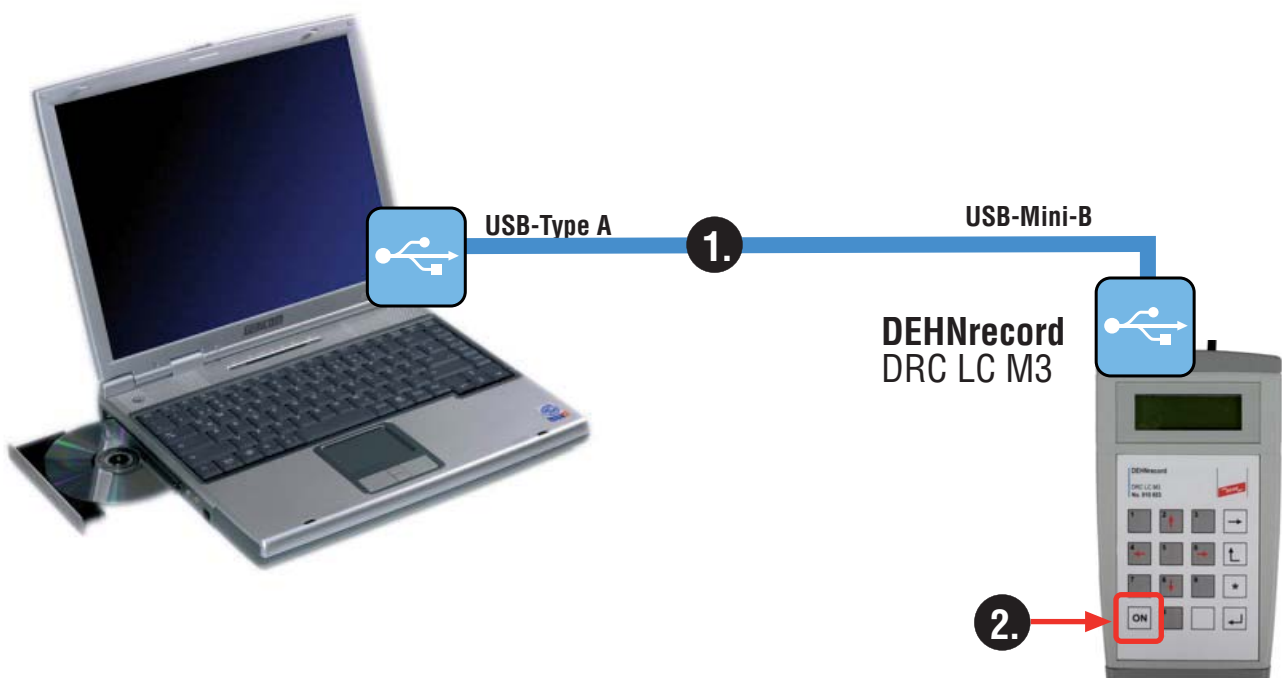

Fig. 1
1. Connect the hand-held reader with the PC by USB cable, see Fig. 1